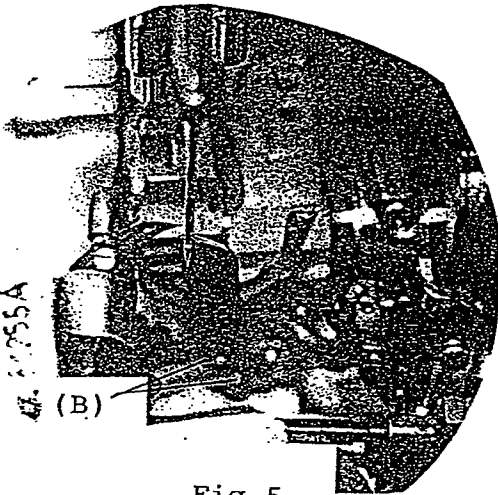

Fig. 5
Set the rear needle guard (Looper lever needle guard) so that it barely contacts the needle when the looper point approaches the left side of needle. Adjustment can be made by loosening the two screws (B) / Fig.5 and re-set the needle guard at proper position.